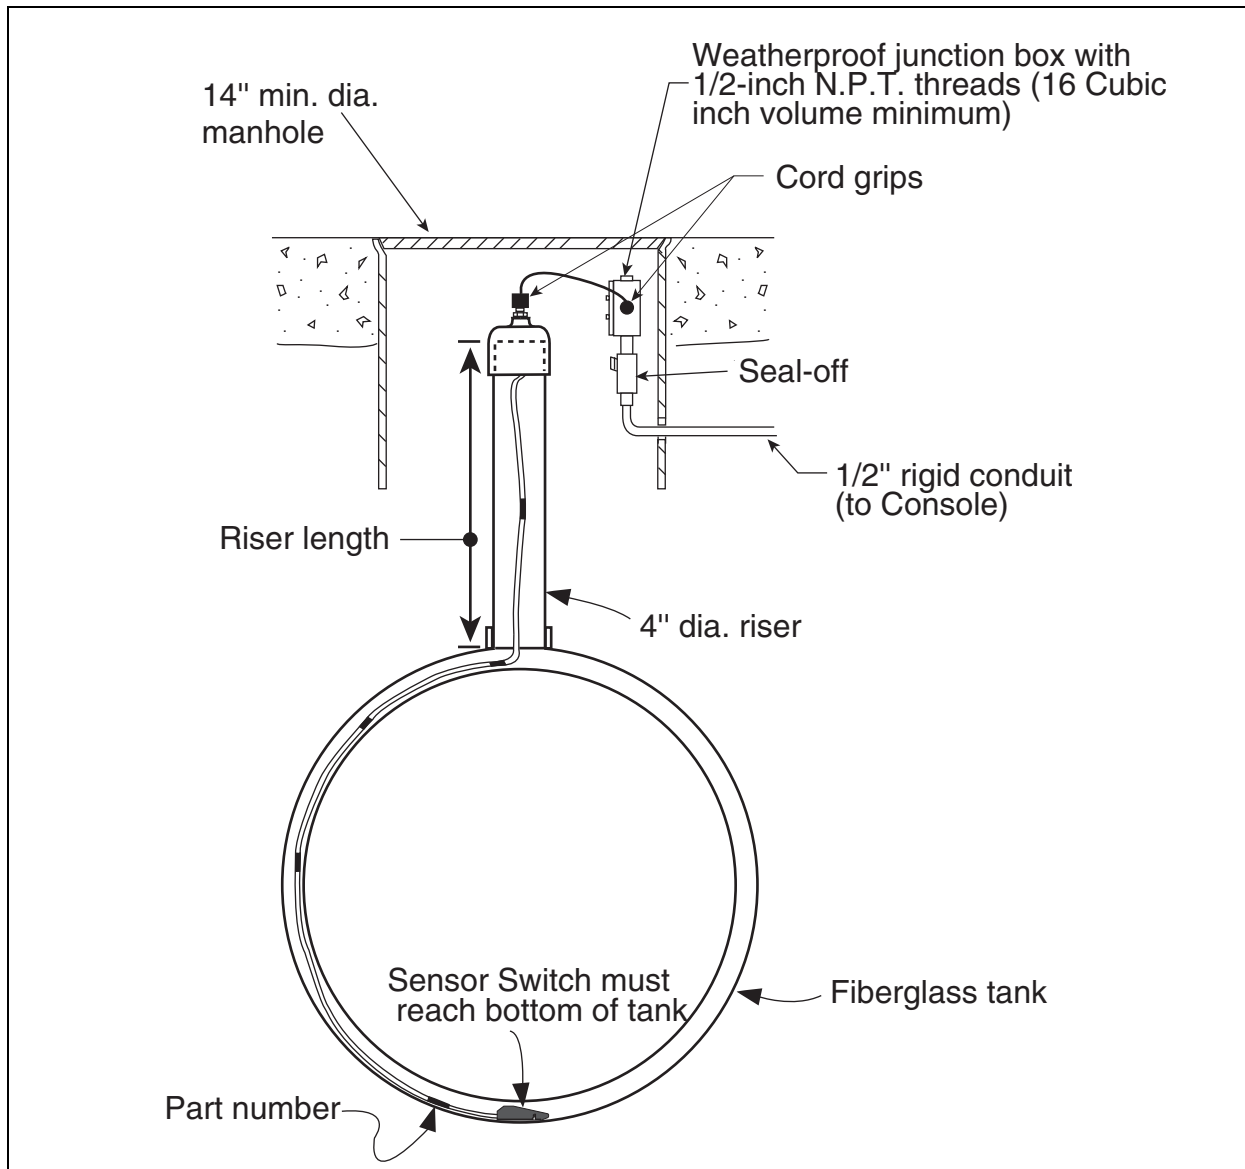

Figure 2. Example Sensor Installation
3. Measure the length of the riser pipe as shown in Figure 2.